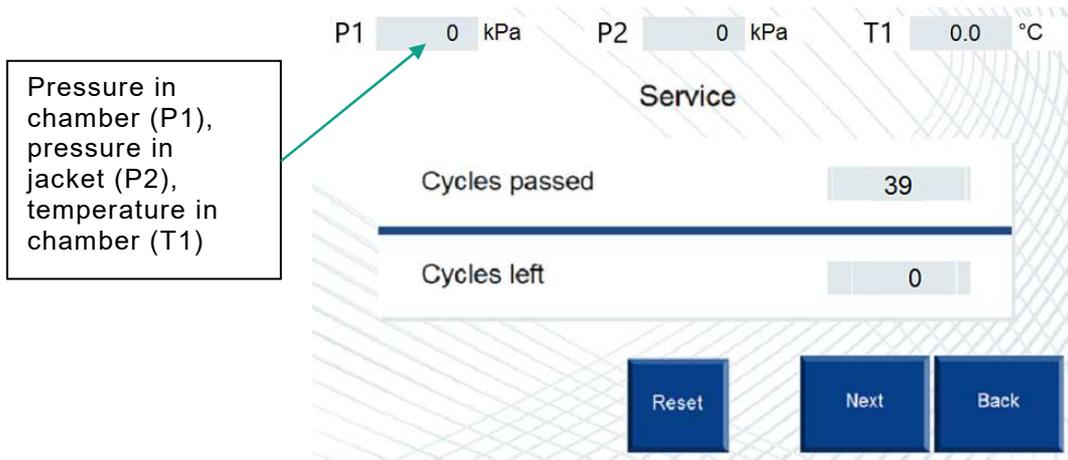

Fig. 40
**Service** – pressing this button moves to the "Service" screen used to restore the number of performed cycles by the service personnel (Fig. 40)
**Back** – pressing this button returns to the "Service" screen (Fig. 40).